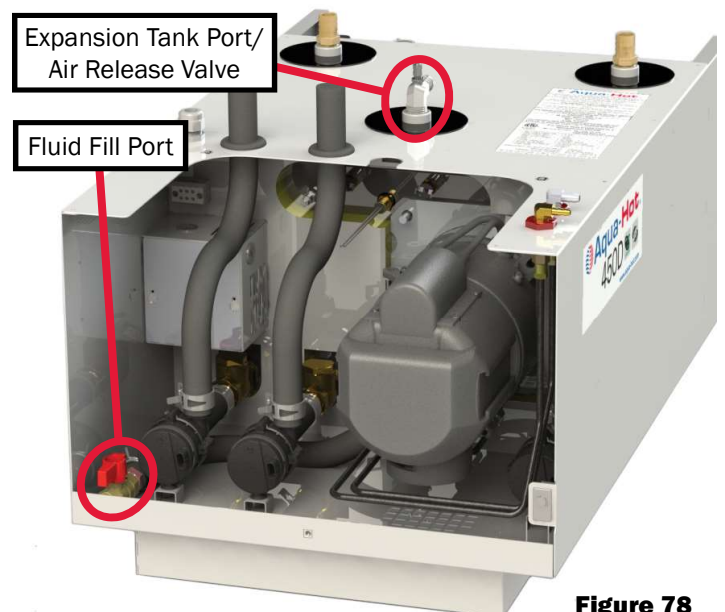

Figure 78
3. Open the Aqua-Hot’s drain valve located at the front of the heater. Reference Figure 78.